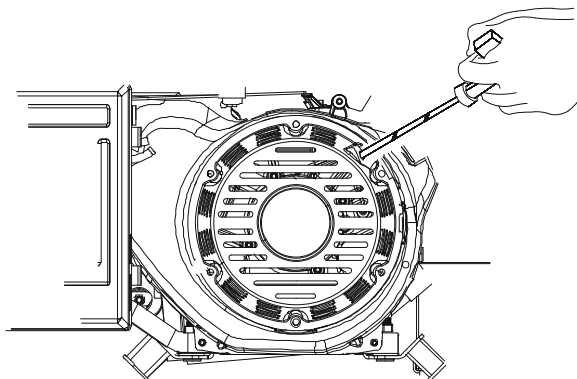

Figure 8- Pulling the start cord
7. Pull on the recoil starter grip slowly until a slight resistance is felt (see figure 8). Then pull quickly to start the engine. Return cord gently into the machine. Never allow the cord to snap back.
8. If engine fails to start, repeat step 7. NOTE: After repeated failed attempts to start the engine, please consult the troubleshooting guide before attempting again. If problems persist please call **(800) 232-1195 M-F 8-5 CST**.